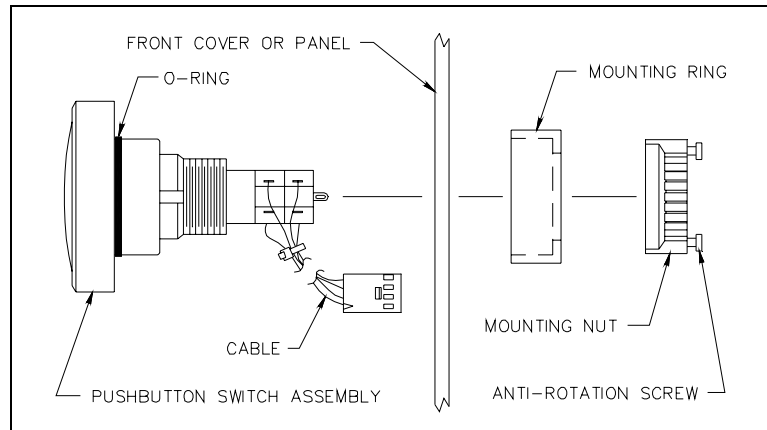

Figure 1. Push-Button Switch Assembly,
7. Using the 1/8-inch straight slot screwdriver, loosen the anti-rotation screws on the mounting nut. See Figure 1.
1. From the front side of the panel, push the new push-button assembly through the hole. See Figure 1.
2. Secure the push-button assembly to the front cover using the mounting ring and the mounting nut. See Figure 1.
NOTE: Ensure that the o-ring seal is in its proper location, as shown in Figure 1.
2. Secure the push-button assembly to the panel using the mounting ring, and the mounting nut. See Figure 1.
NOTE: Ensure that the O-ring seal is in its proper location, as shown in Figure 1.